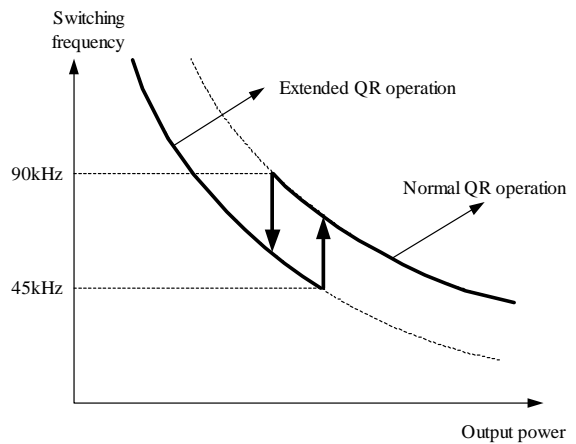
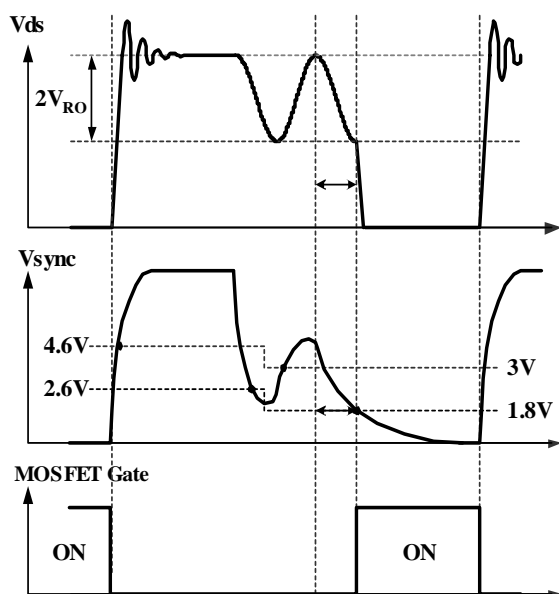
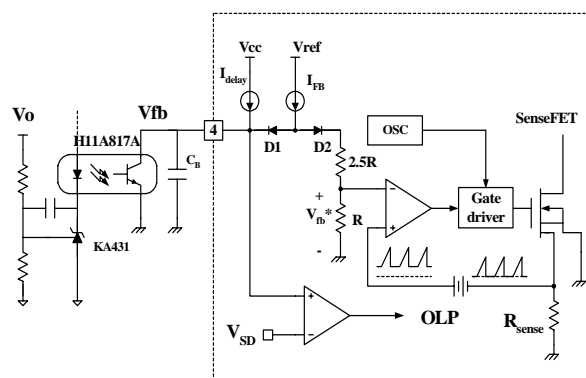

Figure 6. Extended quasi-resonant operation
Figure 7. Extended quasi-resonant operation waveforms
Figure 8. Pulse width modulation (PWM) circuit
**2. Synchronization :** FSCQ1565RP employs quasi-resonant switching technique to minimize the switching noise and loss. In this technique, a capacitor (Cr) is added between the MOSFET drain and source as shown in Figure 6. The basic waveforms of quasi-resonant converter are shown in Figure 7. The external capacitor lowers the rising slope of drain voltage to reduce the EMI caused when the MOSFET turns off. In order to minimize the MOSFET switching loss, the MOSFET should be turned on when the drain voltage reaches its minimum value as shown in Figure 7.
The minimum drain voltage is indirectly detected by monitoring the Vcc winding voltage as shown in Figure 6 and 8. The voltage divider RSY1 and RSY2 should be chosen so that the peak voltage of sync signal (VsyPk) is lower than the OVP voltage (12V) in order to avoid triggering OVP in normal operation. It is typical to set VsyPk to be lower than OVP voltage by 3-4 V. In order to detect the optimum time to turn on MOSFET, the sync capacitor (CSY) should be determined so that TR is the same with TQ as shown in Figure 8. The TR and TQ are given as, respectively